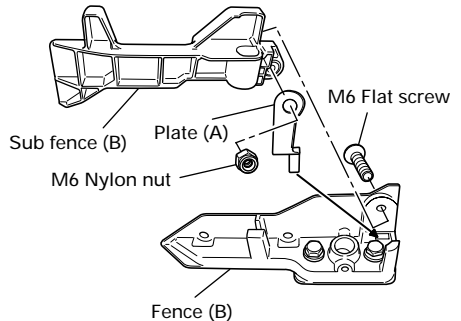

Fig. 8
5. **Install the sub fence (B) (Fig. 8)**
In the case of direct angle cutting and angle cutting, use the sub fence. The sub fence (B) can be installed on the right side of the guide fence (B). Place the attached plate (A) in the position as shown in Fig. 8, insert the tip in the groove of fence (B) and simultaneously, insert flathead screw M6 into fence (B), sub fence (B), and plate (A), then tighten nylon nut M6 with the included 10mm box wrench until the sub fence (B) can smoothly rotate. Then, you can realize stable cutting of the material with a wide back face.